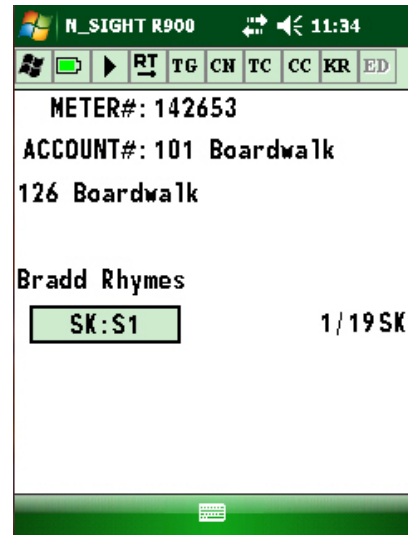

Figure 6.8 Reading to be Unskipped
- 1 Display the reading entry screen of the meter whose reading you skipped. See Figure 6.8.